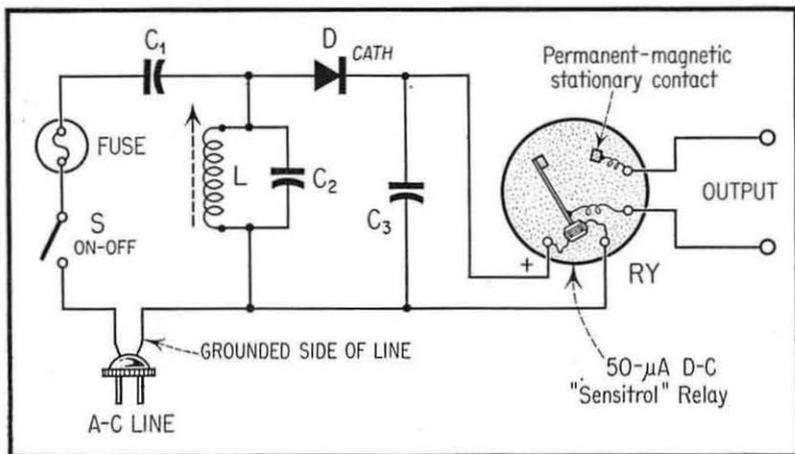
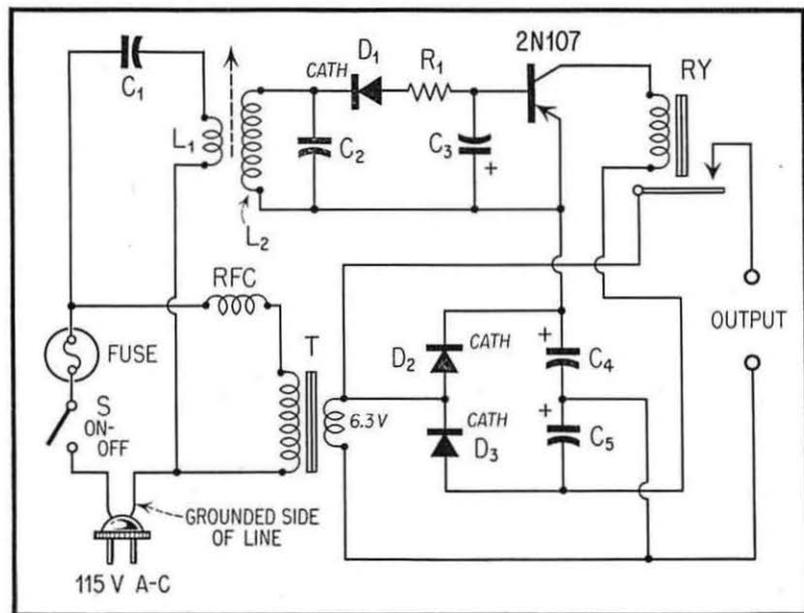

Fig. 3. Diode-Type Wired-Radio Receiver.
Fig. 4. Diode-Transistor-Type Wired-Radio Receiver.
motes greater reliability by removing the possibility of tube burnout. The diode-type circuit (Figure 3) draws no standby current at all. The diode-and-transistor circuit (Figure 4) draws very little standby current.
**Diode-Transistor Circuit.** See Figure 4. In this receiver circuit, a heavier, milliampere-type d-c relay is operated by a single transistor d-c amplifier which receives its d-c signal excitation from the output of a diode detector. The relay, RY, is a 2-ma, 8000-ohm unit.
#### PARTS LIST FOR FIGURE 3
#### PARTS LIST FOR FIGURE 4